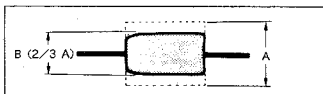

Fig. 7-71.
- 4) Set the SEL switch of the track shift jig to ON, then turn the track shift knob until the RF waveform amplitude becomes $2/3$. (See Fig. 7-71.)